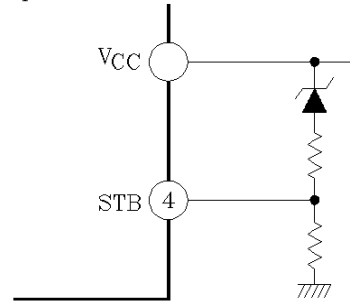

Fig.7
When the stand-by terminal was put to the low level after the ripple rapid discharging circuit was operated ($V_{CC} \approx 7V$) at the time when V_{CC} was turned OFF, a pop noise may be generated. Therefore, V_{CC} which makes the Stand-by terminal low shall be set at 8V or above so that (1) the Stand-by terminal is put at the low level and (2) the ripple rapid discharging circuit is turned ON when V_{CC} is turned OFF (in order of (1) and (2)). An example of application is shown in (Fig. 7).